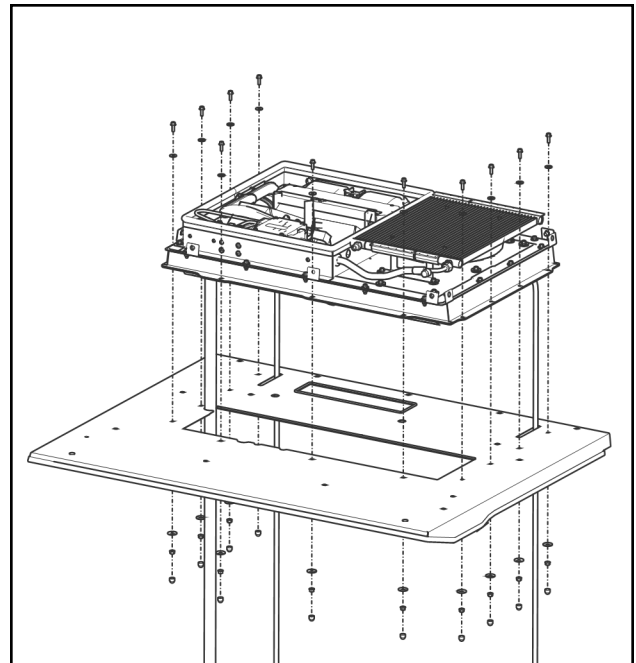

Fig. 4.1 (A/C Unit to Roof)
- 4.1** With assistance, support the A/C unit with adapter assembly above the A/C roof. See Figure 4.1.